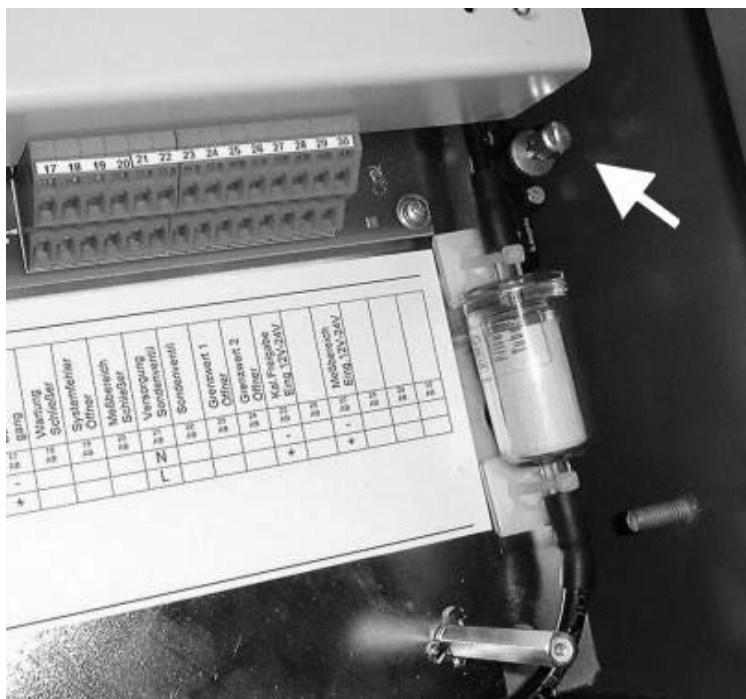

Figure 58 Position of valve (pump version)
- In the pump version, **only**, the flow rate of **test air** can be adjusted (see Figure 58).